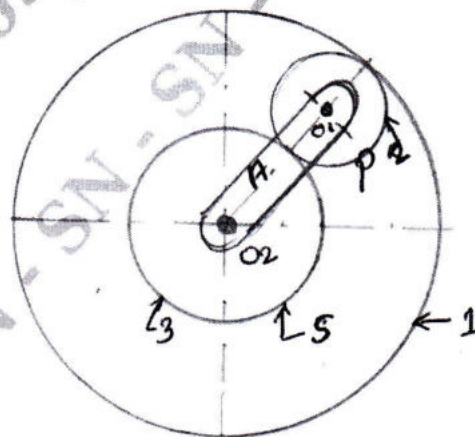

Fig. Q8 (b)
- b. An epicyclic gear train consists of three gears : 1, 2 and 3 as shown in Fig. Q8 (b). The internal gear 1 has 72 teeth and gear 3 has 32 teeth. The gear 2 meshes with both gear 1 and gear 3 and is carried on an arm 'A', which rotates about the centre  $O_2$  at 20 rpm. If the gear 1 is fixed, determine the speed of gear 2 and 3. (10 Marks)